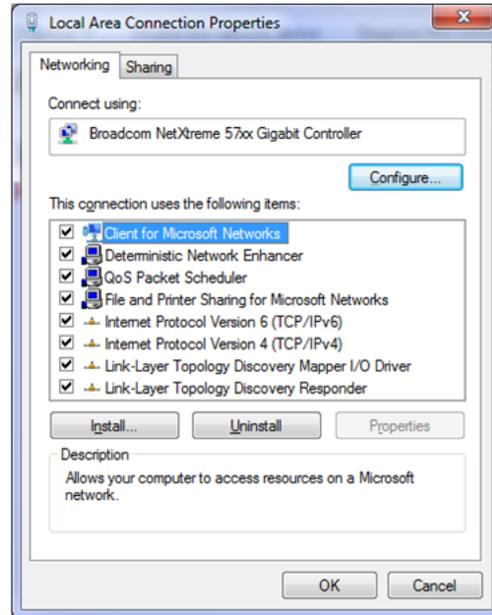

Figure 2.2
4. Select “Local Area Connection” - Figure 2.2